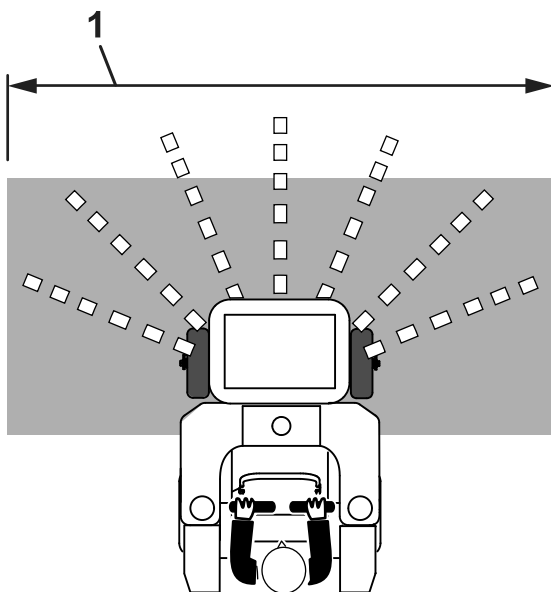

Figure 31
4. Open the hopper-door control to begin spreading the granular material (Figure 31).